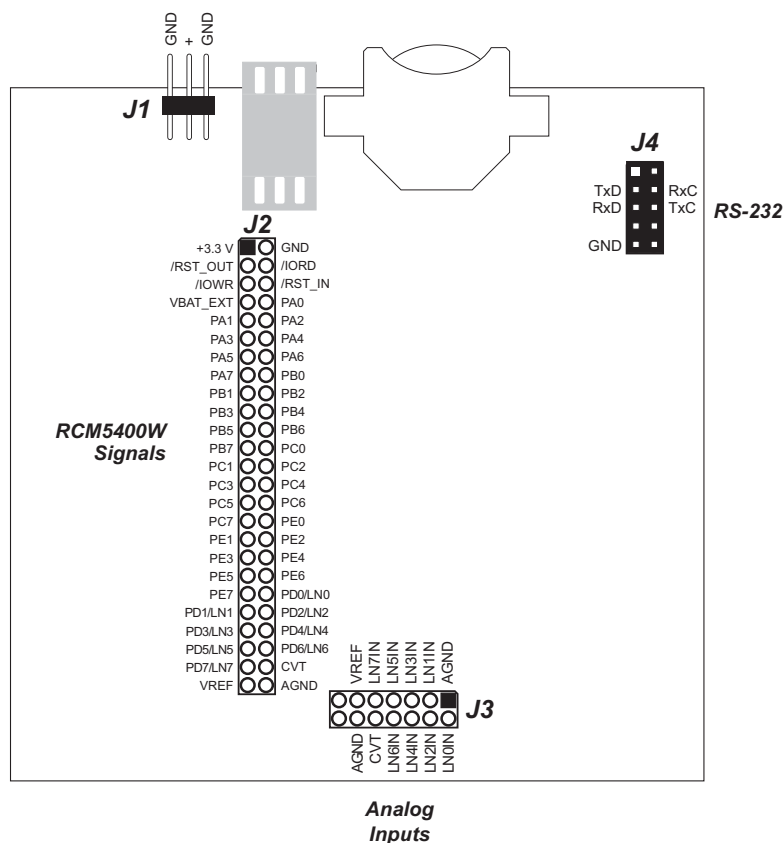

Figure B-4. Prototyping Board Pinout
- **Module Extension Header**—The complete pin set of the RCM5400W module is duplicated at header J2. Developers can solder wires directly into the appropriate holes, or, for more flexible development, a 2 × 25 header strip with a 0.1" pitch can be soldered into place. See Figure B-4 for the header pinouts.
The Prototyping Board provides the user with RCM5400W connection points brought out conveniently to labeled points at header J2 on the Prototyping Board. Although header J2 is unstuffed, a 2×25 header is included in the bag of parts. RS-232 signals (Serial Ports C and D) are available on header J4. A header strip at J4 allows you to connect a ribbon cable, and a ribbon cable to DB9 connector is included with the Development Kit. The pinouts for these locations are shown in Figure B-4.